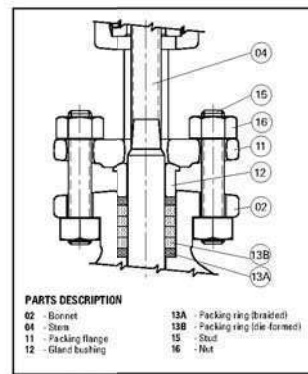

Figure 5.1H Packings installed
1. Insert one braided packing ring, followed by intermediate graphite packings and one last braided packing ring refer to Figure 5.1H. Lower the gland bushing and check for bushing positive engagement.